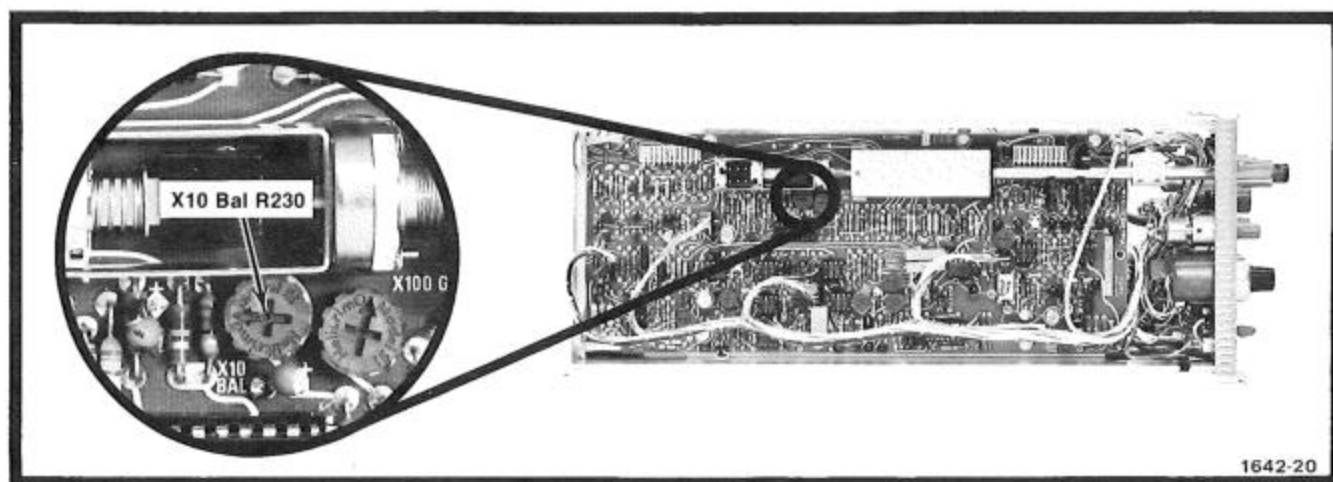
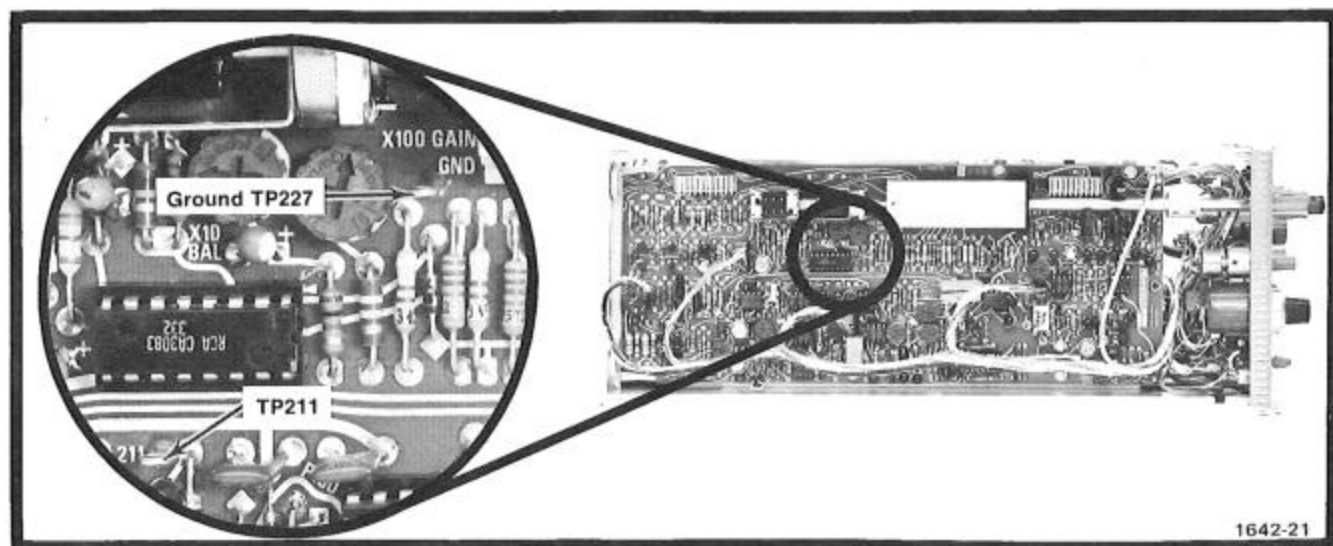

Fig. 5-15. Location of X10 Bal R230.
Fig. 5-16. Location of OFFSET control test points.
e. ADJUST—X10 Bal R230 (see Fig. 5-15) for no trace shift as the VERTICAL GAIN switch is switched from 100 to 50.
a. Set the VERTICAL GAIN switch to the GAIN position and the DISPLAY DISPERSION switch to the 20 (2) nm/div position.
f. Set the VERTICAL GAIN switch to 1 and the DISPLAY DISPERSION switch to the 40 (4) nm/div position.
a. Connect the positive meter lead of the DVM to test point TP 211 (see Fig. 5-16) and the negative meter lead to the ground test point TP 227 (see Fig. 5-16).